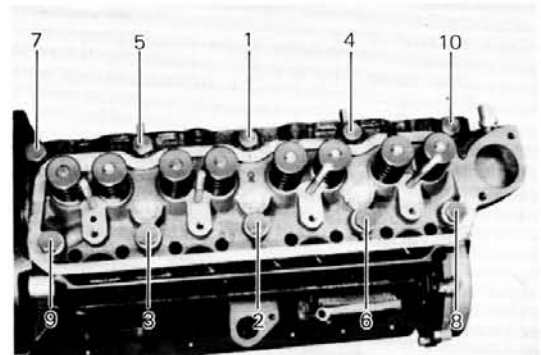

Fig. 1-72 Tightening Order
21. Turn the engine, and position the top side up. Install the cylinder head with the gasket, and tighten the cylinder head bolts following the order of the numbers as shown in figure 1-72, in three progressive stages, and secure the bolts to 10.3 to 11.7 m-kg torque finally.